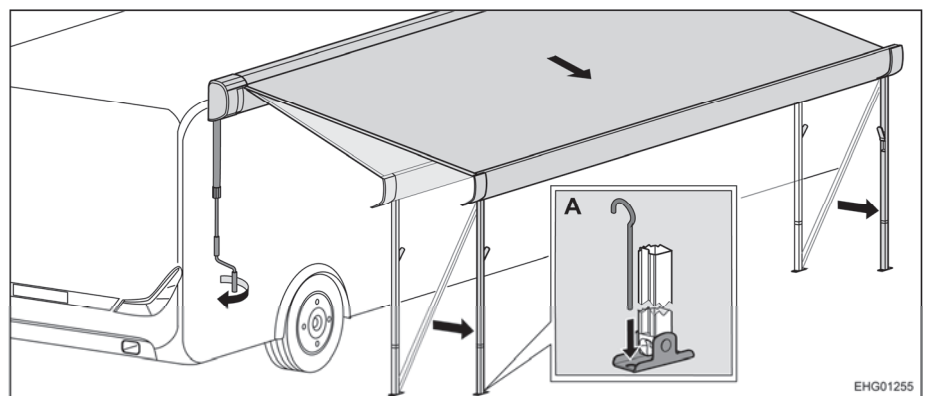

Fig. 22 Bringing awning into end position
- Fix the support legs to the floor with tent pegs (Fig. 22,A).